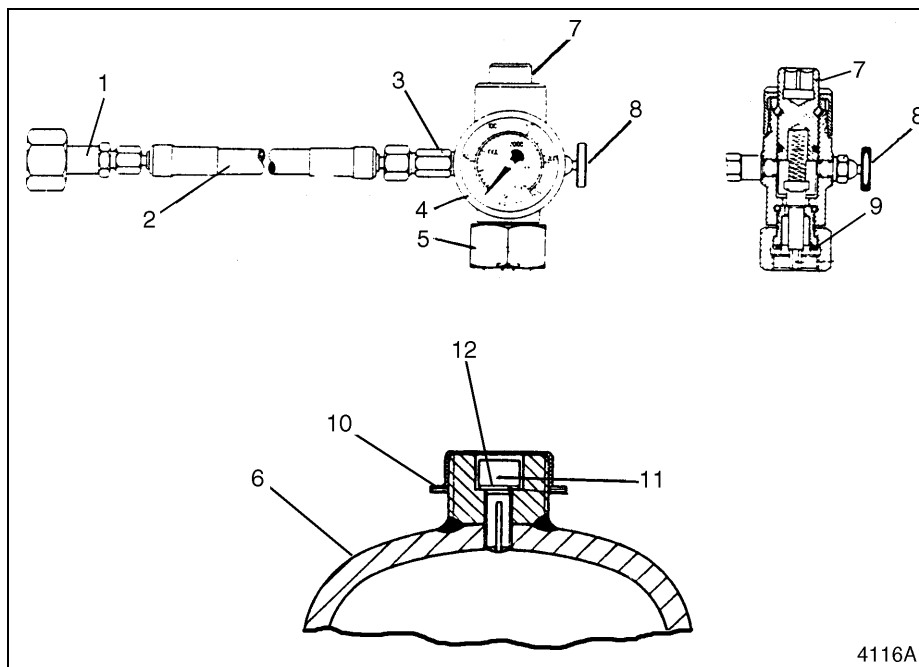

Figure 3
1. Remove the protective cap (10, Figure 3) and the protective plug (11) from the accumulator (6).
2. Clean area around seal ring (12).
3. Thread the sealing nut (5, Figure 3) of adapter (7) onto accumulator. Tighten adapter securely. Close nitrogen bleeder valve (8).
4. Thread nitrogen cylinder fittings (1, Figure 3) onto nitrogen cylinder.
6. Slowly open nitrogen bleeder valve (8). Open valve (8) until gauge (4) reading is equal to primary pressure. Close bleeder valve.
7. Unscrew adapter (7, Figure 3) from accumulator (6).
8. Thread protective plug (11, Figure 3) into accumulator. Tighten to 3.0 kg•m (22 ft. lbs.).
9. Check for nitrogen leaks around protective plug (11, Figure 3). Coat area around protective plug (11) with soapy water. If soap bubbles form, retighten protective plug (11).
10. Install protective cap (10, Figure 3) on accumulator.